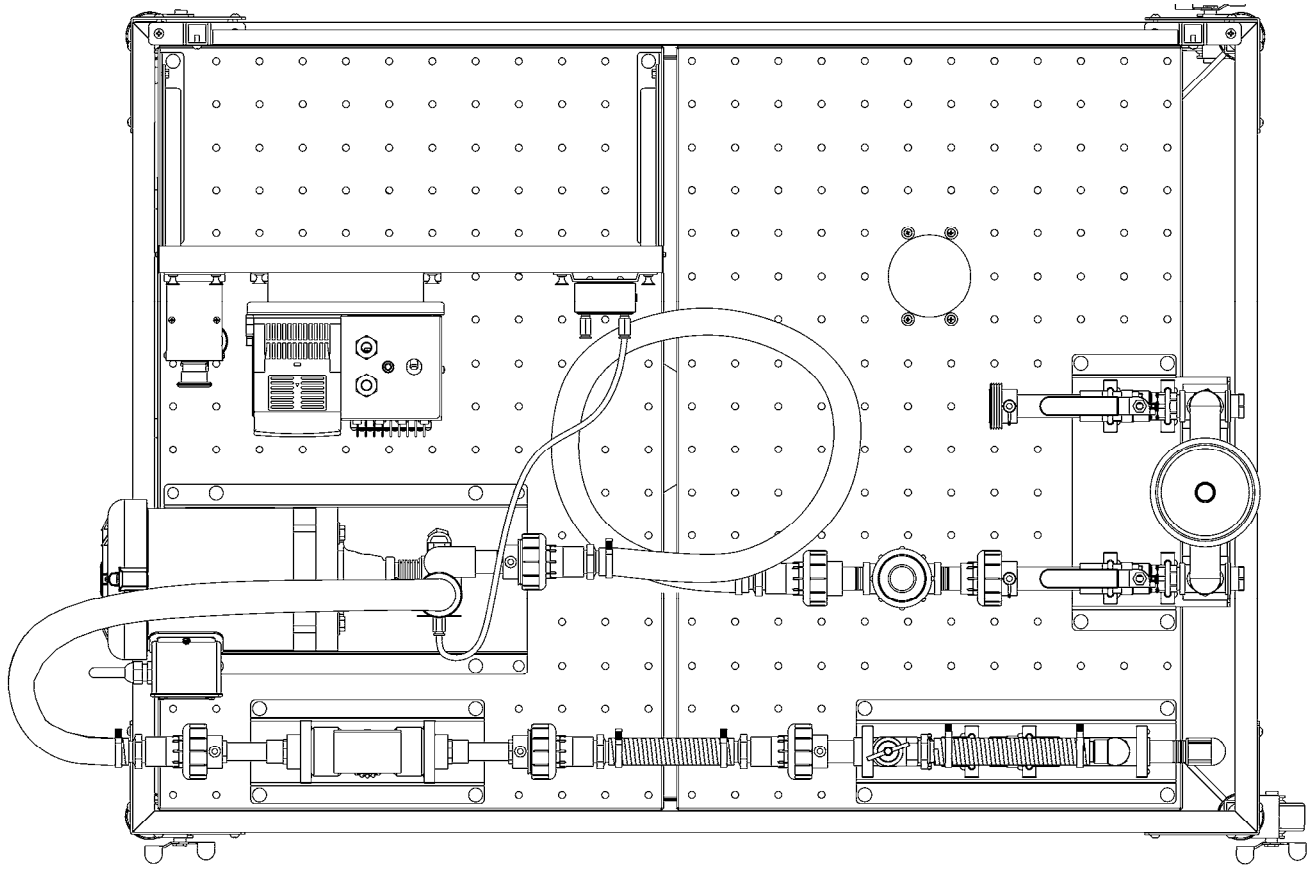

Figure 1-9. Pumping circuit using the Vane Pump.
- 9. Set up the pumping circuit shown in Figure 1-9.